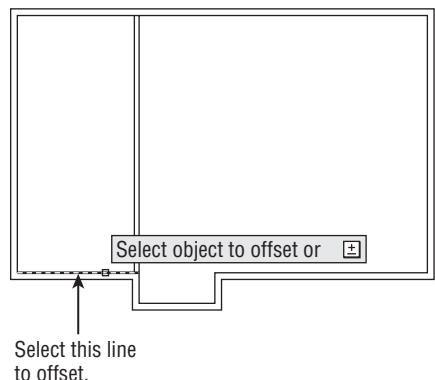

FIGURE 4.17 Selecting another wall line to offset
10. Pick a point on the inside lower-left exterior wall line (see Figure 4.17).